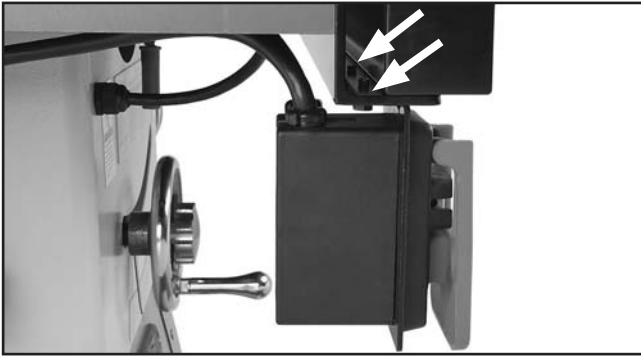

Figure 25. Switch attached to rails.
26. Attach the switch to the front rail with two M6-1 x 12 hex bolts (**Figure 25**).